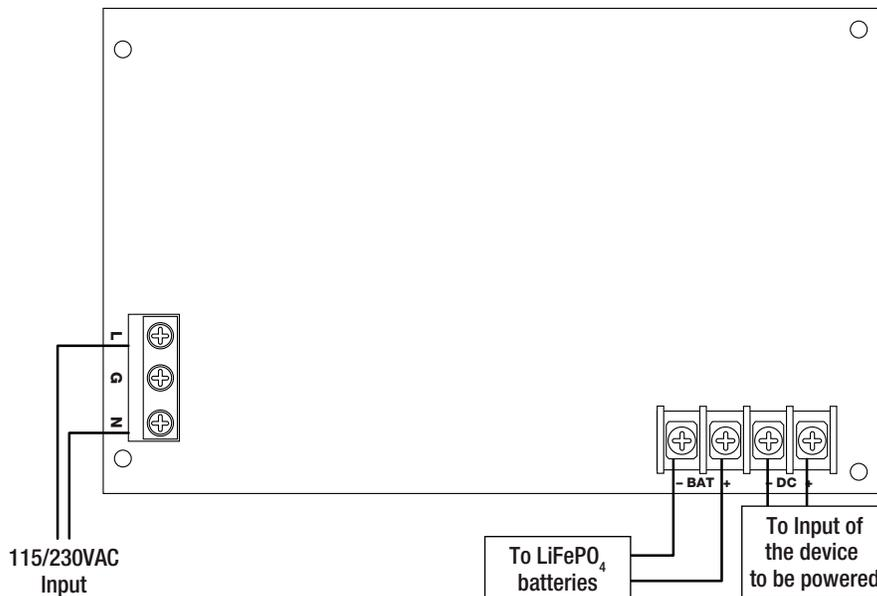

Fig. 1
2. Set POE60 to the proper AC input voltage via input voltage switch (Fig. 1).
3. Connect AC power from overcurrent protective device circuit breaker (20A @ 115VAC, 60Hz, 16A @ 230VAC, 50/60Hz) to the terminals marked [L, N] on power supply board (Fig. 1). Use 14AWG or larger for all power connections (Battery, DC output, AC input).